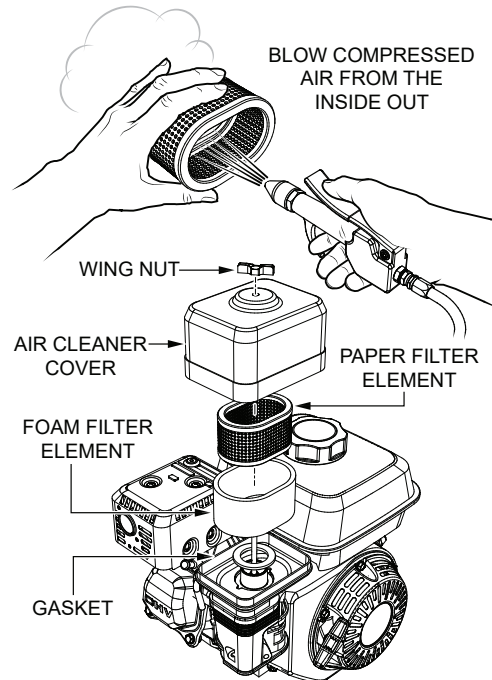

Figure 35. Engine Air Cleaner
1. Remove the air cleaner cover and foam filter element as shown in Figure 35.
2. To remove dirt, tap the paper filter element (Figure 35) several times on a hard surface, or blow compressed air not exceeding 2.1 kgf/cm² (207 kPa, 30 psi) through the filter element from the air cleaner case side. **DO NOT** brush off dirt. Brushing will force dirt into the fibers. Replace the paper filter element if it is excessively dirty.